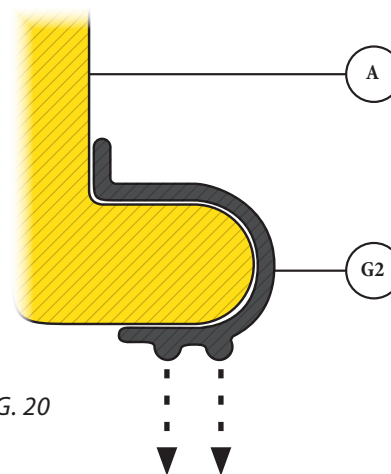

FIG. 20
Install the Barrel Gasket (G2) onto the rounded, bottom edge of the Motor Assembly (A). The Barrel Gasket (G2) should be oriented so that the "ribbed" side is facing downwards [FIG. 20].